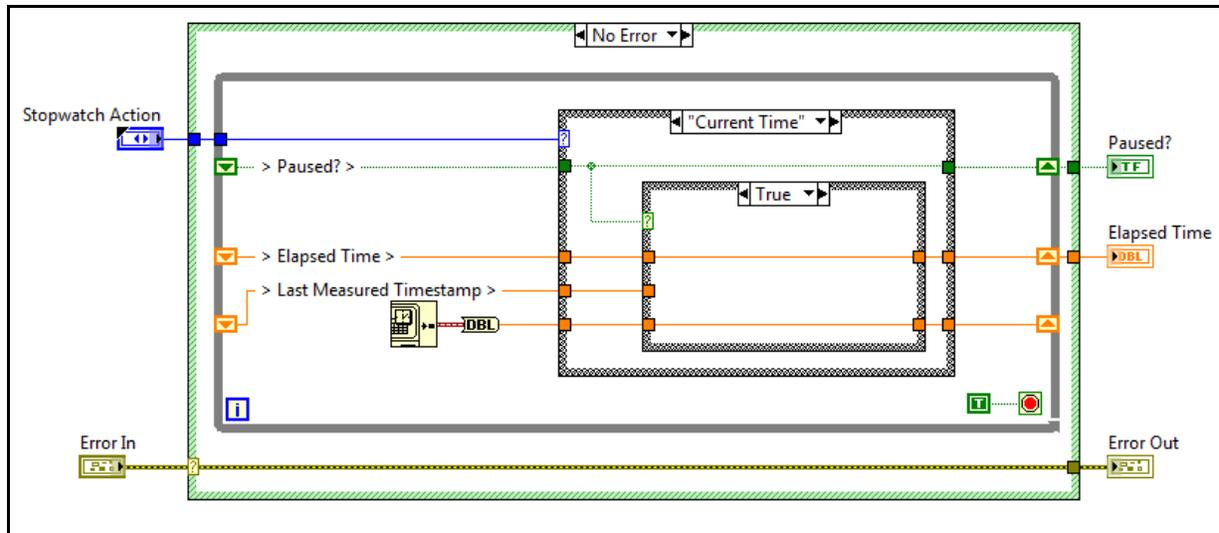

Figure 6. Completed True Case in the Current Time Case of the Functional Global Variable
14. Wire the Current Time case as seen in Figure 6.